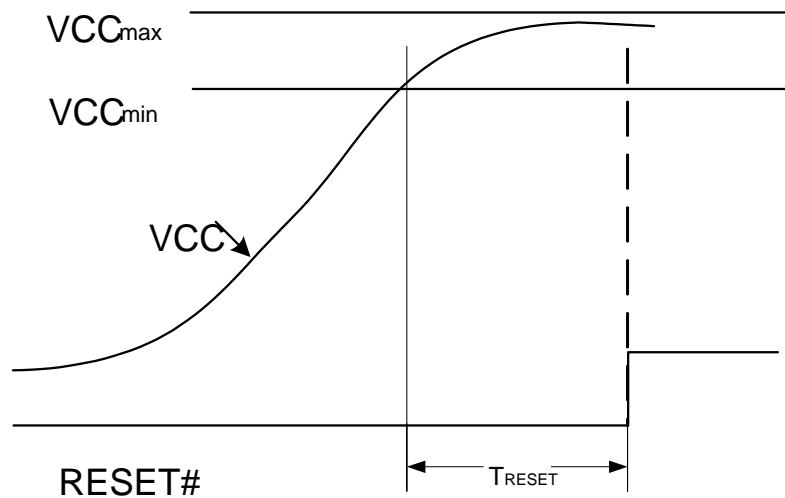
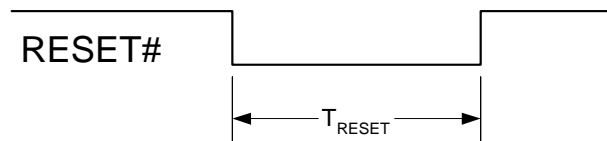

Figure 4.5. Conditions for Use of RESET#
Figure 4.6. RESET# Minimum Timing
- Reset on RESET# signal can be LOW as the supply becomes stable (shown in Figure 4.5), or pulled LOW for at least T_{RESET} (shown in Figure 4.6).
VCC must be stable between the limits shown in the Normal Operating Conditions section on page 18 for T_{RESET} before RESET# goes HIGH, as shown in Figure 4.5. Before accessing registers, RESET# must be pulled LOW for T_{RESET} . This can be done by holding RESET# LOW until T_{RESET} after stable power, or by pulling RESET# LOW from a HIGH state for at least T_{RESET} , as shown in Figure 4.6. Note: VCC can be one of RnPPWR5V or SBVCC5V.